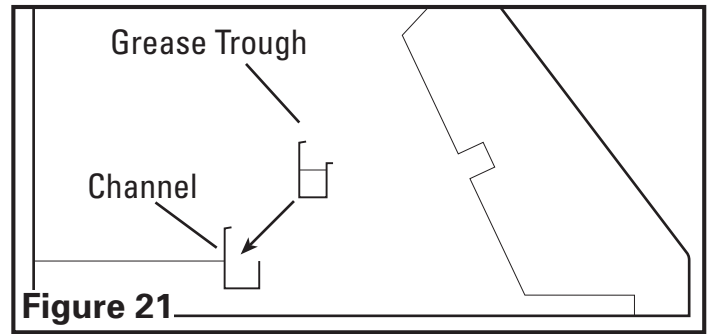

Figure 21
2. If the included removable grease trough is not already installed within the hood, insert into the rear inside channel of the hood. Make sure the taller side of the trough is facing towards the back of the hood (**Figure 21**).